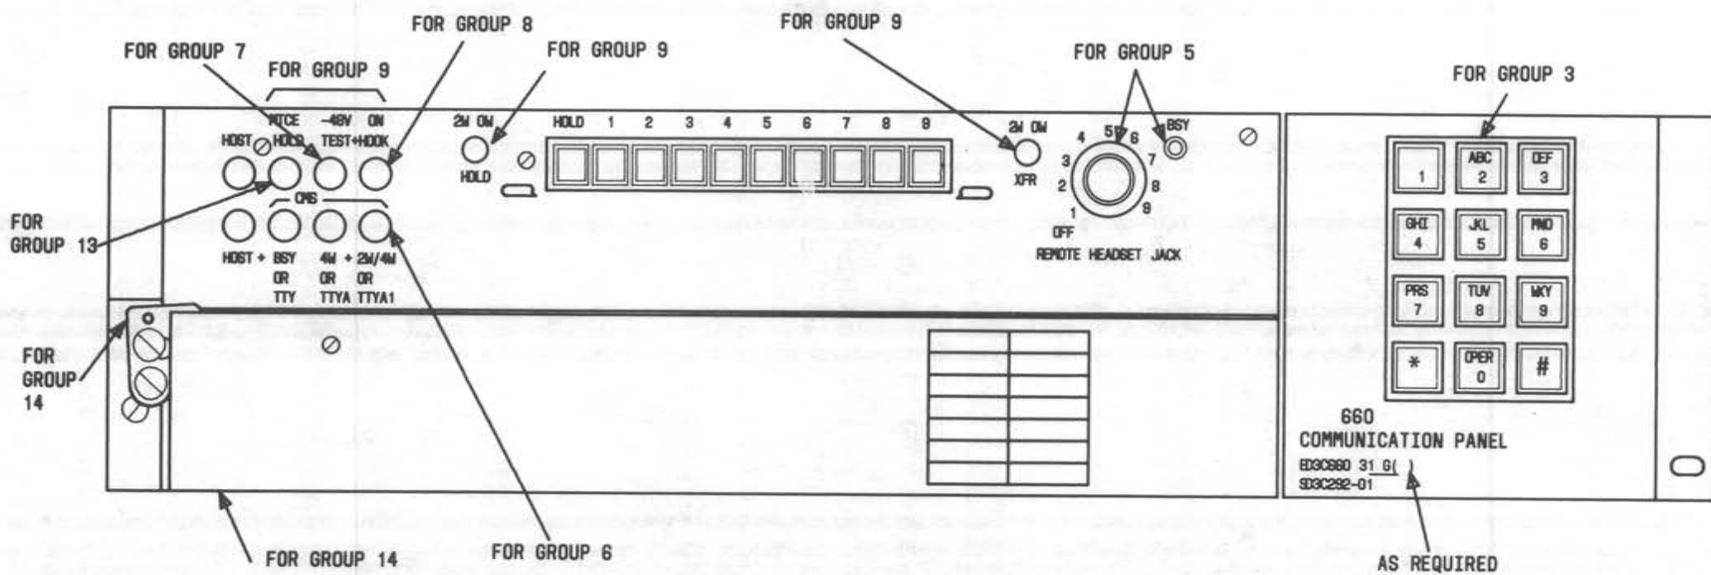

Fig. 3—ED-3C660-32 Communication Panel
**2.05 ED-3C660-32:** The ED-3C660-32 (Fig. 3) is designed to occupy two 2 by 23-inch mounting plate spaces and replaces the ED-3C660-30.